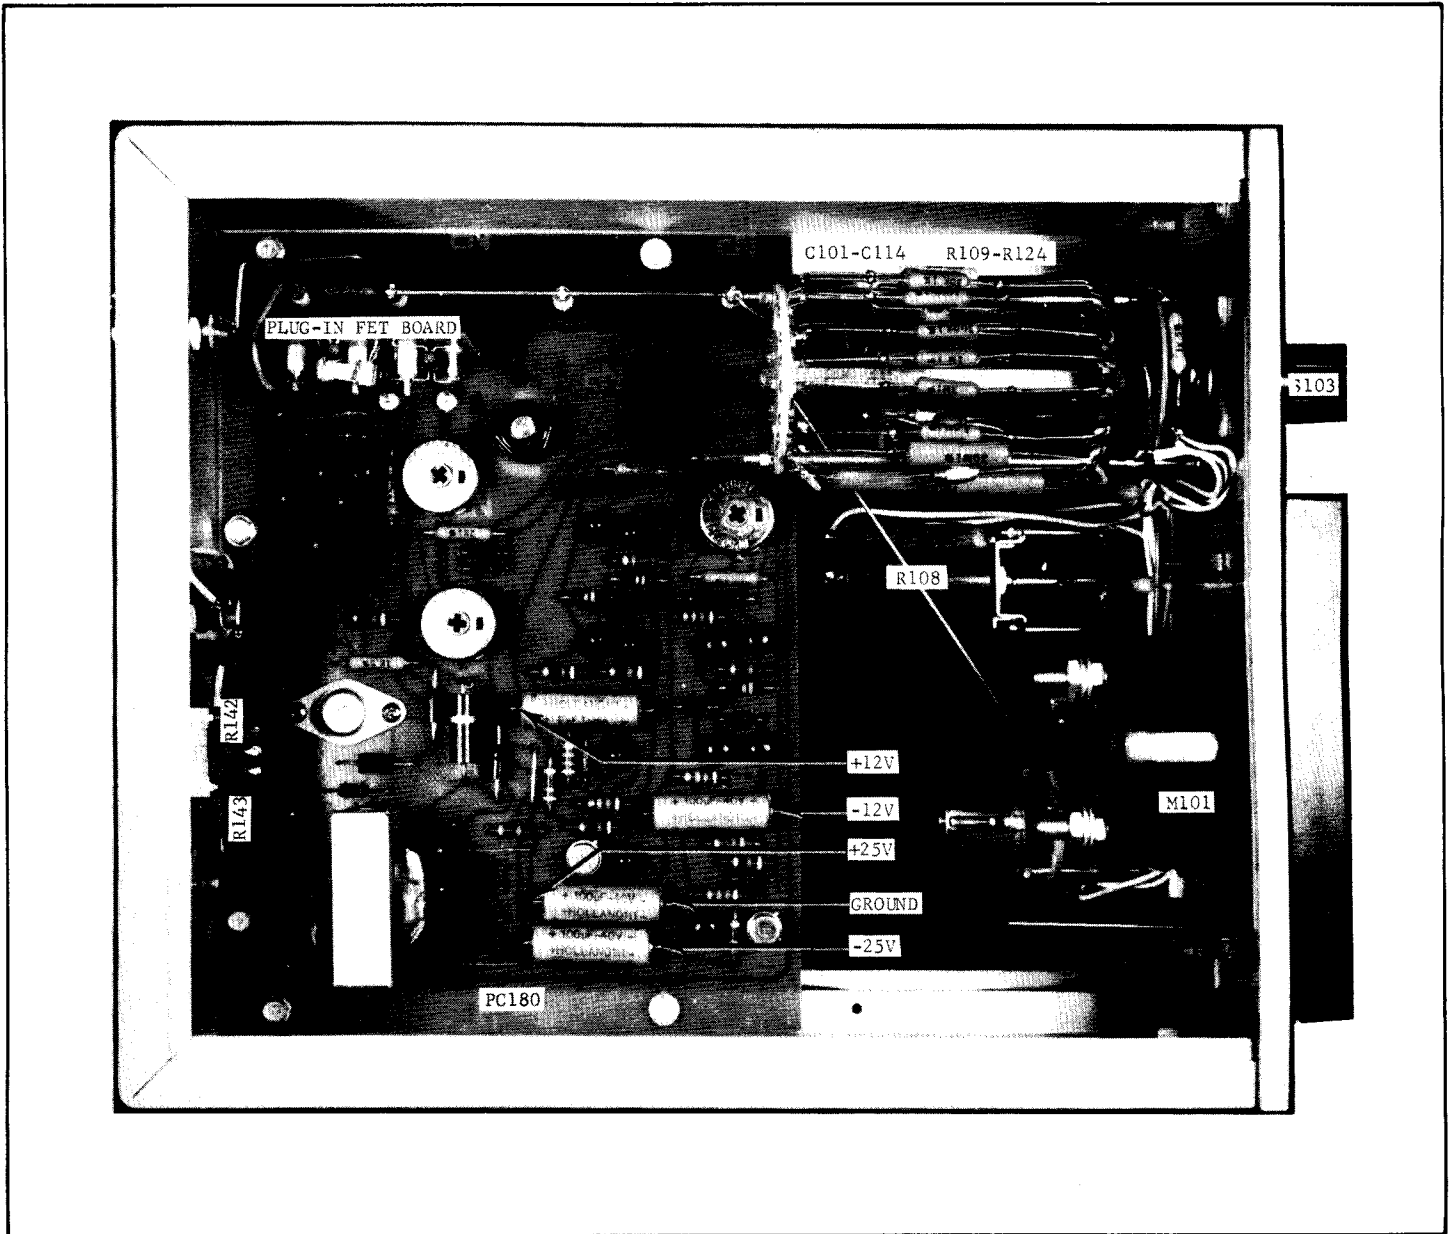

FIGURE 6. Chassis, Top View.
b. Check the positive and then the negative 25 volt supply by connecting the Model 163 across capacitors C201 and C205 respectively (Figure 6). The voltage should be plus and minus 26 volts ± 2 volts respectively. The ripple in each case should be less than 3 volts peak-to-peak.